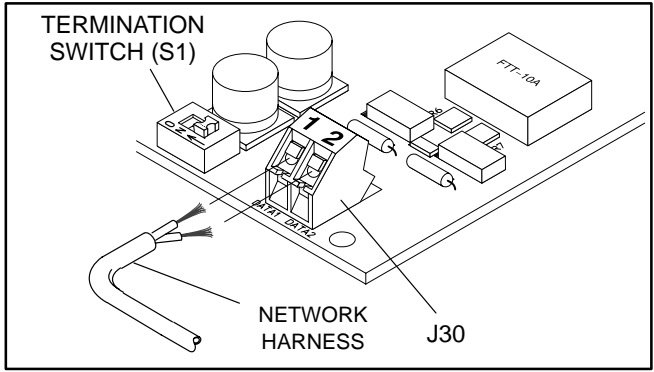

FIGURE 2. NETWORK HARNESS CONNECTION
10. Attach one end of the network harness to the Data 1 and Data 2 terminals of the two-position terminal block (J30), (polarity insensitive, see Figure 2).
13. If the device is to be terminated, set the S1 switch to the ON position (see Figure 2).